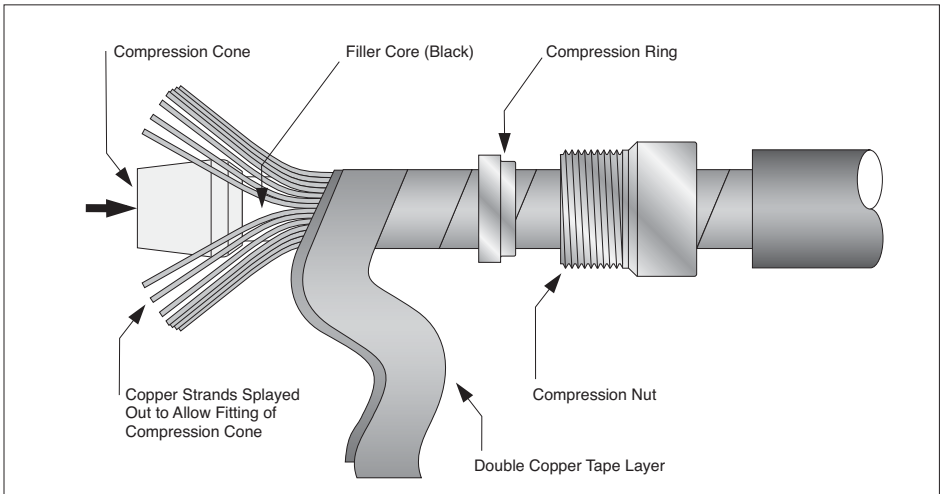

Figure 22: Positioning the compression coupling.
14. Place the compression nut and compression ring of the coupling set over the strands and copper tape layer. Check the order and orientation of the nut and ring against Figure 22 on page 36.
15. Unwrap the material double tape layer back to the compression ring. Place the compression cone between the filler core and the copper strands as shown in Figure 22. The cone should be "pushed on" until it is flush with the end of the filler core. Neatly form the copper strands back over the cone in their original order.